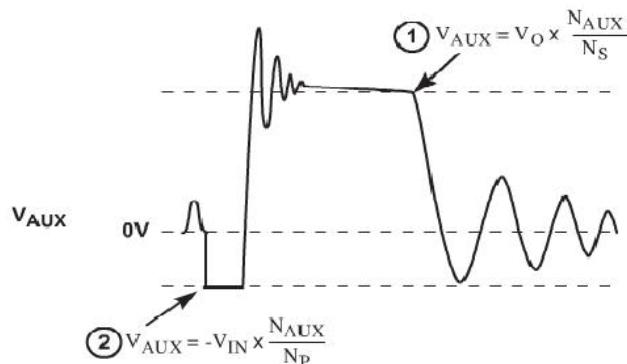

Figure 7.3: Auxiliary Voltage Waveforms
and reflects the output voltage as shown in Figure 7.3. The voltage at the load differs from the secondary voltage by a diode drop and IR losses. Thus, if the secondary voltage is always read at a constant secondary current, the difference between the output voltage and the secondary voltage will be a fixed ΔV . Furthermore, if the voltage can be read when the secondary current is small, ΔV will also be small. With the PN8162 ΔV can be ignored.
In the PN8162, the current I_D, avg is controlled in order to achieve good current regulation, while avoiding continuous conduction mode operation. During constant current (CC) operation, the output voltage regulation is not guaranteed. The point 1 in Figure 7.3, which reflects output voltage is not regulated to FB(NOM) (i.e. 1.533V). For LED applications, where current regulation is critical, design needs to ensure the point 1 is well below FB(NOM) with some margin.
The PN8162 also incorporates constant voltage (CV) operation, where output voltage maintains constant by regulating the point 1 indicated in Figure 7.3 to FB(NOM) (1.533V typically). During constant voltage operation, the PN8162 may operate in pulse-width-modulation (PWM) mode or pulse-frequency-modulation (PFM) mode, depending on load conditions. In particular, the PN8162 allows the switching frequency to drop as low as 1.8kHz at PFM mode, which helps system stay regulated at very light load condition, thus achieving <30mW no-load power consumption and meanwhile improving active operating efficiency by using large pre-load resistor.
The secondary maximum output DC voltage is limited by the PN8162. When the FB signal exceeds the output OVP threshold at point 1 (as shown in Figure 7.3), the PN8162 shuts down.
LED short fault is detected via FB pin. When the point 1 in Figure 7.3 is below 115mV for several consecutive cycles, the PN8162 shuts down.